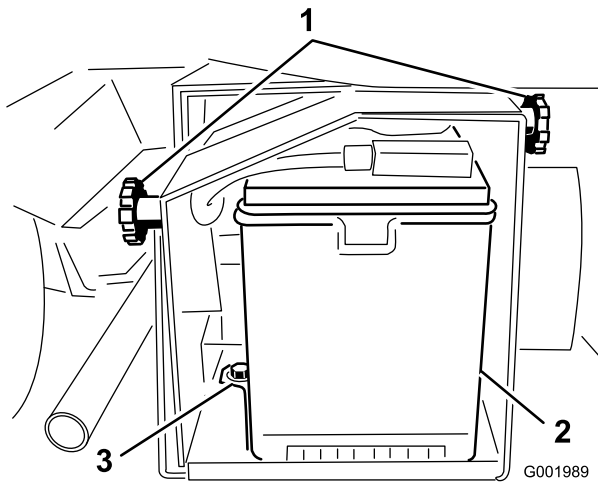

Figure 52
2. Loosen the knobs on the sides of the battery box and remove the battery cover (Figure 52).
5. Remove the battery retainer and fasteners (Figure 52).
2. Install the battery retainer and secure it with the fasteners you removed previously (Figure 52).
4. Install the battery cover and secure it with the 2 knobs (Figure 52).
1. Loosen the knobs on the sides of the battery box and remove the battery cover (Figure 52).